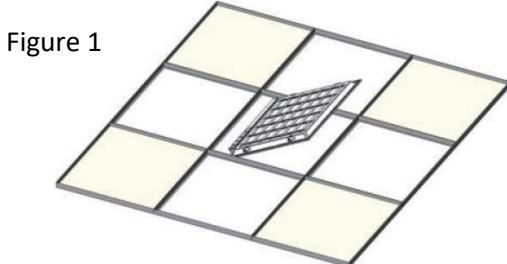
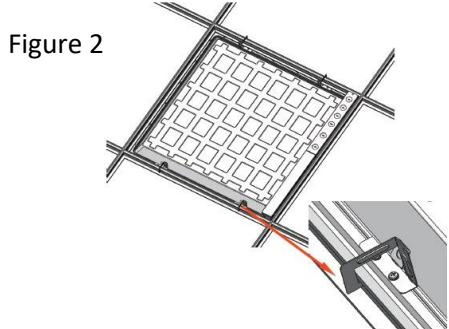

Figure 1
Figure 2
STEP 3: Place the fixture onto the T-grid ceiling (see fig 1), ensuring each of the T-bar support brackets are positioned over the T-bar rails (see fig 2).